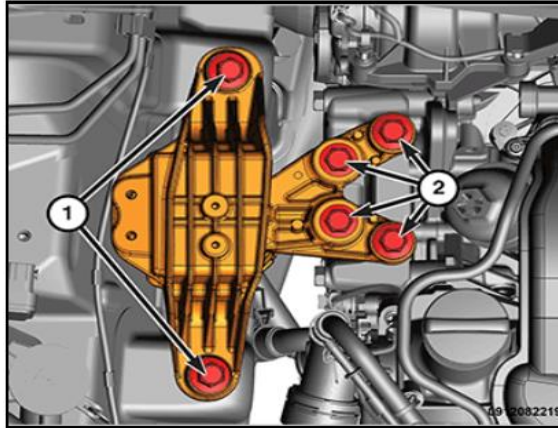

Fig 10. Right Engine Mount
1. Tighten the right engine mount to frame rail bolts (Fig 10.abeled 1) to the proper \(Torque Specifications\).
2. Tighten the right engine mount to engine bracket bolts (Fig 10. Labeled 2) to the proper \(Torque Specifications\).